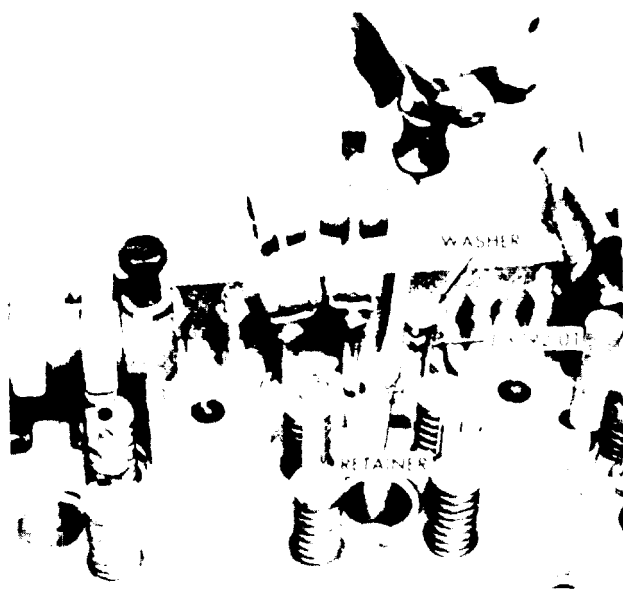

Figure 11B-39. Removing Push Rod from Upper Side of Cylinder Head
5. Remove the spring seat retainer from the groove in the cylinder head (see Figure 11B-39 on page 11B-28).